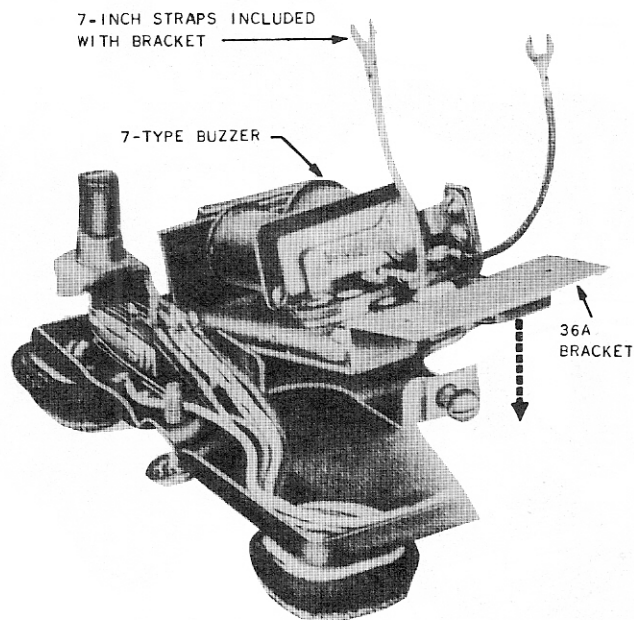

Fig. 5 — Ringer Replaced by 7-type Buzzer
3.03 The buzzer and bracket (Fig. 5) may be used in place of the B-type ringer for common or local signal.